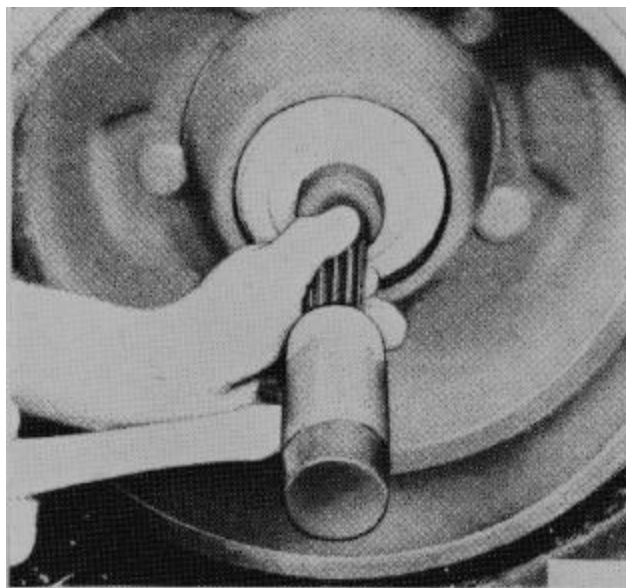

Figure 33 Using Seal Installer
3. Install hub seal using seal installer set to prevent cocking seal (Figure 33). Select the size disc which will apply force to outer edge of hub seal and prevent seal from becoming distorted or damaged.